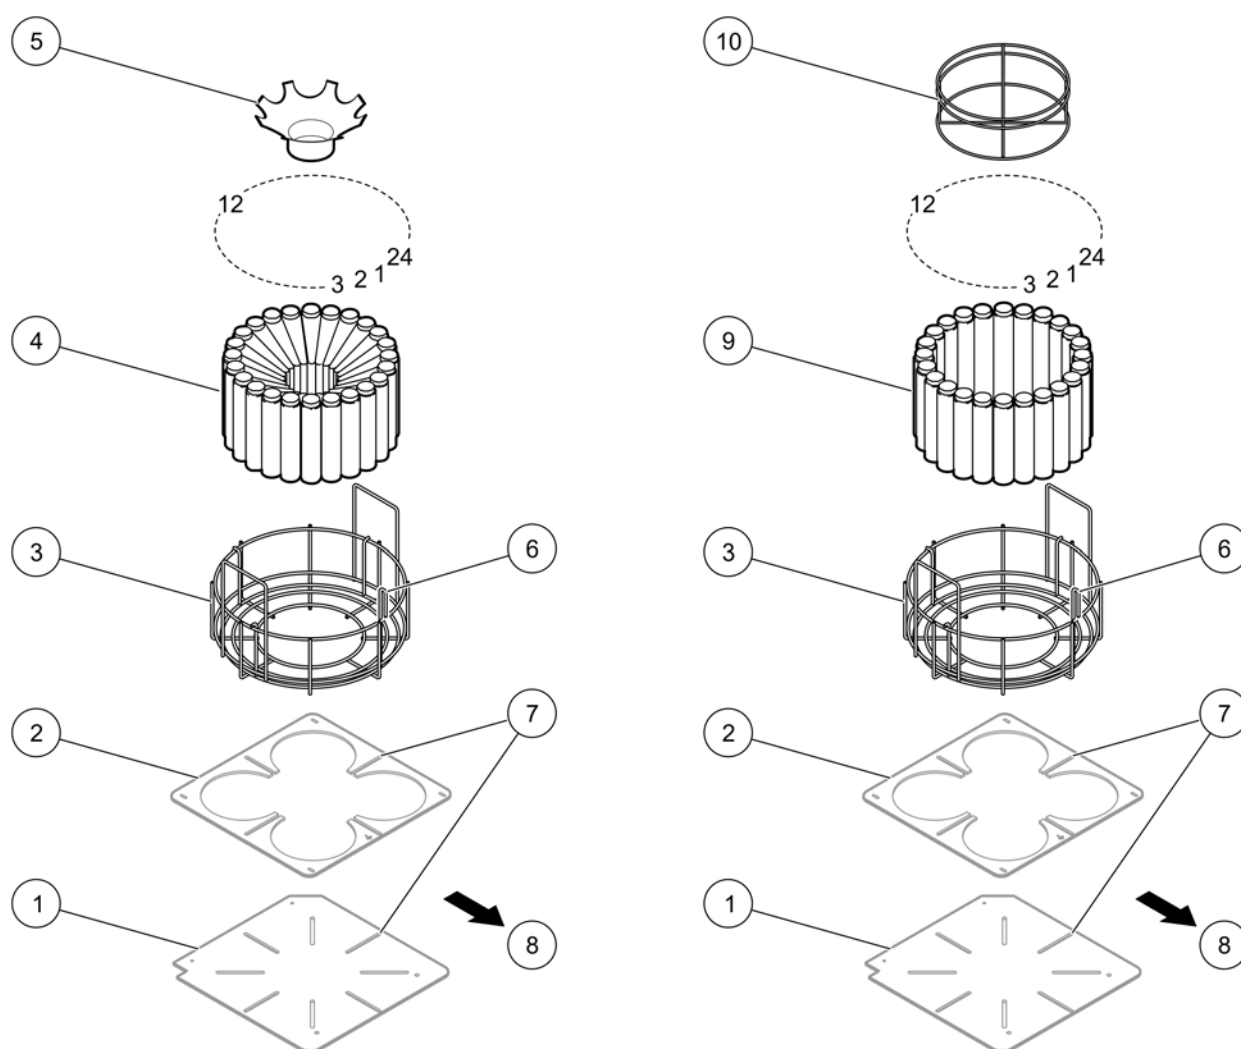

Figure 11 24 bottle installation
2. Place the bottles into the bottle tray. Looking down on the tray, bottle one is the first bottle to the left of the bottle one indicator wire (see Figure 11 on page 27).